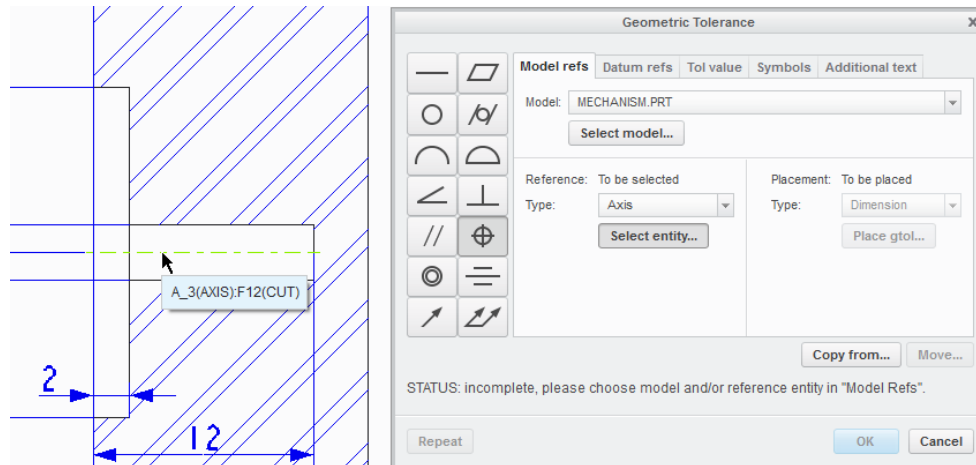

Figure 27: Selecting Axis as a Reference.
7. Select the primary *Reference* (the reference to which we want to point with an arrow) by choosing a proper *Type* and clicking **Select Entity** (Figure 27).